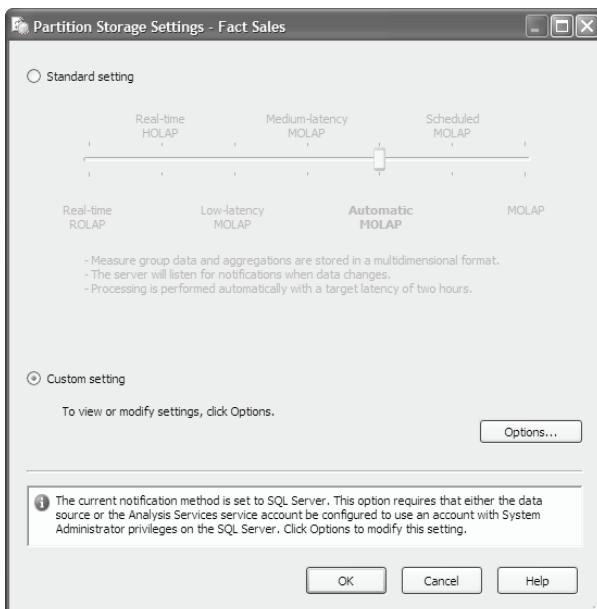

Figure 15.23 UDM defines a few standard proactive caching settings which can be fine-tuned by choosing the Custom settings option.
- Click the Storage Settings link below the partition to open the Partition Storage Settings dialog (Figure 15.23).